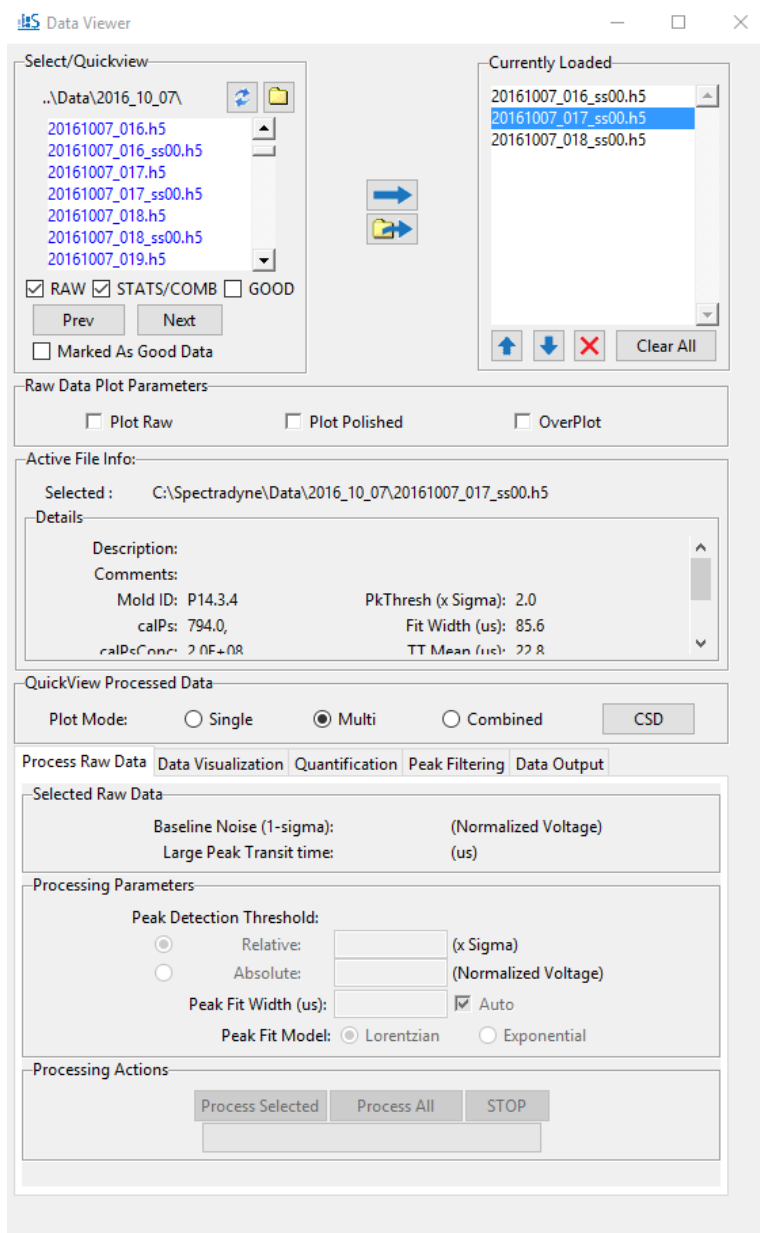

Figure 8. Overview of the Spectradyne Viewer software user interface.
- In the Select/Quickview frame (**Figure 8**), use the folder icon to the right of the current path to navigate to the location of the raw data.